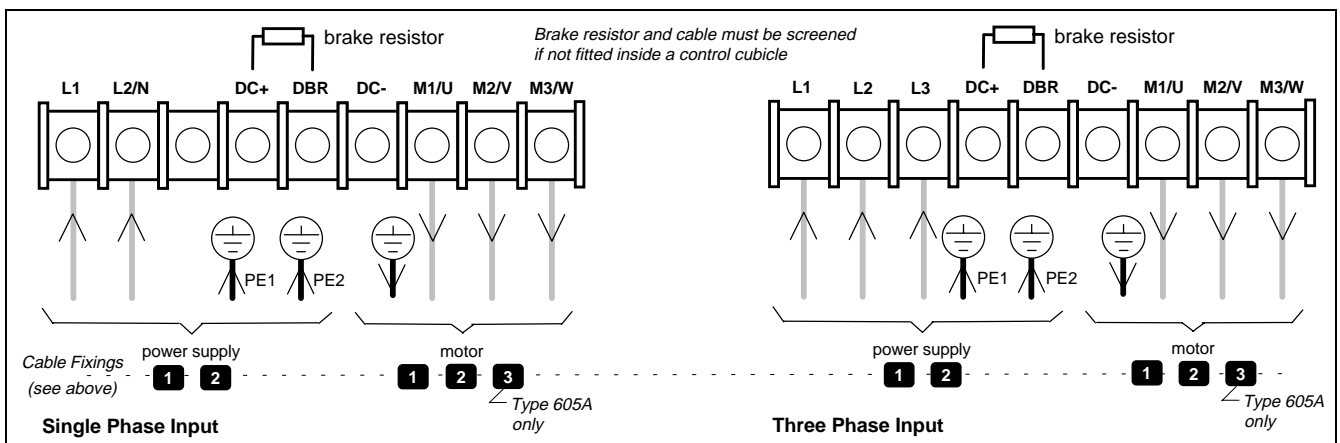

Figure 3-8 Power Wiring and Earth Connections
3. Feed the power supply and motor cables into the inverter through the metal gland plate using the correct cable entries, and connect to the power terminals. Tighten the terminals to a torque of 1.0Nm (9 in.lb). Refer to Figure 3-8 Power Wiring and Earth Connections.